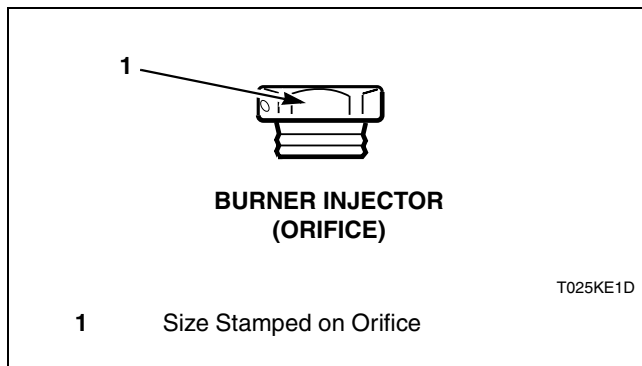

Figure 8
3. Install the new, correct injector(s) (orifices). Refer to *Figure 8*. Torque each to 9 – 10 Nm.
4. Reinstall spud holder assembly to gas valve, making certain orifice is in line with burner tube opening, and flange gasket is in place in flange groove. Refer to *Figure 7* or *Figure 8*.